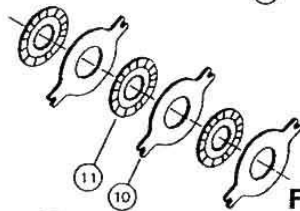

FIGURE 2 Stacking Arrangement for Models 02-556-358, 02-556-364, 02-556-376, 02-556-380, 02-556-382, 02-556-384, 02-556-386, 02-556-392
2. Press new rotary oil seal (20) into cover (18). Note direction of seal.
3. Install new bearing (16) and retaining ring (19) on shaft (9).
4. Insert shaft assembly and retaining ring (15) in cover (18).
5. Insert dowel pins (17), spring retainer (14) and springs (13) in cover (18). **NOTE: Be sure to use the same number of springs and spring pattern as recorded during disassembly.**
6. Position plate (12) on to springs (13). **NOTE: Discs (10 & 11) and plate (12) should remain dry during installation. No oil residue should be allowed to contaminate disc surfaces.**
7. Place a new friction disc (11) on shaft (9) until it contacts plate (12).
8. Add additional new discs (10) and new friction discs (11) as required to complete assembly. **NOTE: Some models are stacked differently. Check to see if the stacking arrangement for your model is listed in Figures 2 thru 5.**
9. Install new o-ring (4), new back-up ring (5), new o-ring (7) and new back-up ring (8) on piston (6). Note order of o-rings and back-up rings. Insert piston (6) into pressure plate (2). Be careful not to shear o-rings or back-up rings.
10. Install new case seal (3) in cover (18).
11. Position pressure plate (2) on cover (18) aligning dowel pins (17) with holes in pressure plate.
12. Install washer head cap screws (1) and tighten evenly to draw pressure plate (2) to cover (18). Torque washer head cap screws 74.6 N-m (55 lb-ft). **NOTE: A hydraulic press will simplify installation of pressure plate on cover. Clamp pressure plate in position while tightening the washer head cap screws.**